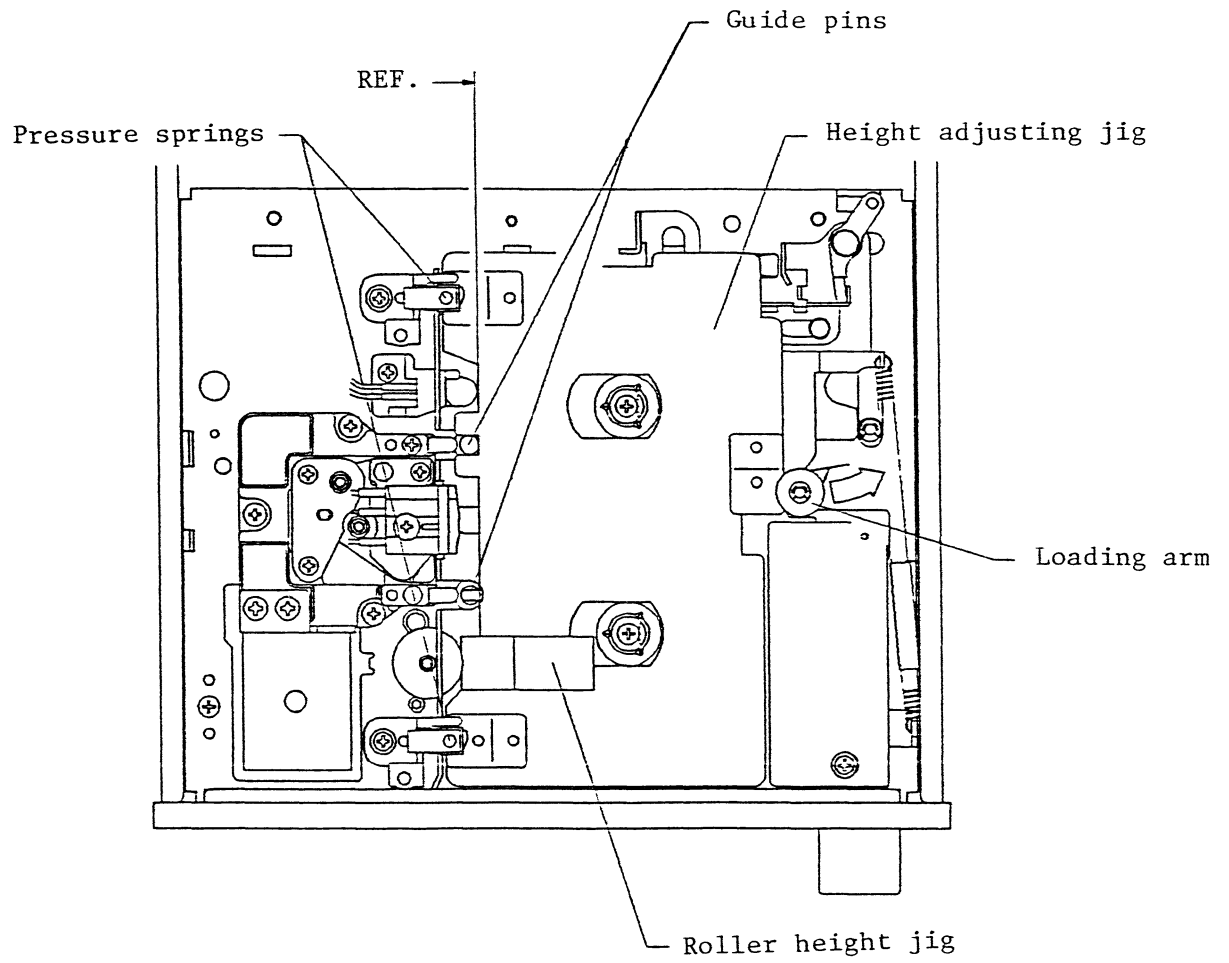

Fig.416 Setting of jigs
- (b) Set the height adjusting jig to the unit. While pushing the loading arm with the finger, put the height adjusting jig on the MTU with the guide pins as reference, and return the arm gradually. In this case, check if the jig is pressed exactly to the pressure spring (Fig. 416).